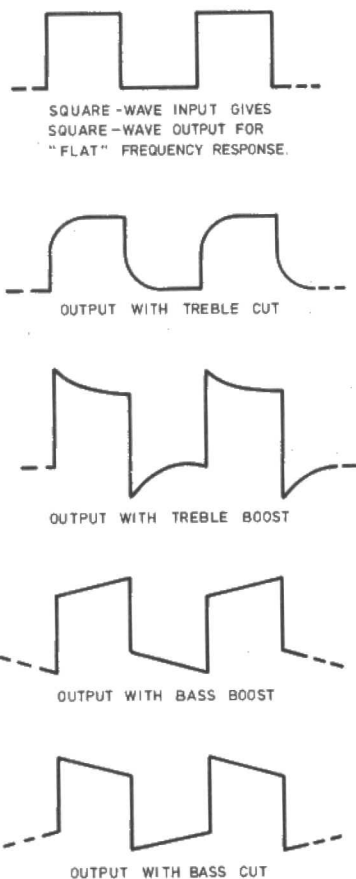

Fig. 7. Use of square-wave signal to indicate frequency response of amplifiers, tone control circuits, graphic equalisers, etc.
5. Audio. Audio enthusiasts will find the fixed and sweeping facilities invaluable for checking the ultimate frequency and phase responses, throughout the audio and super-sonic ranges, of amplifiers, filters, graphic equalisers etc. As shown in Fig. 7, fixed frequency square-wave testing of amplifiers gives an immediate indication of the frequency response by the degree of "overshoot" or of "droop". The effect of introducing, or changing the setting of, bass and treble controls can be seen immediately, and the centre point (i.e. no cut, no boost) can be identified by noting the setting where the output wave form is truly rectangular and undistorted.